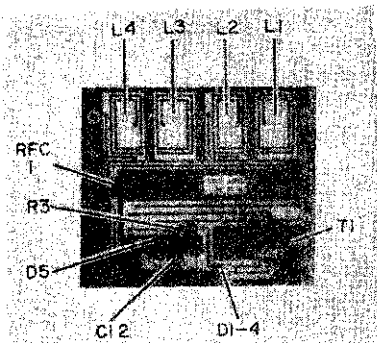

FIG. 5—POWER SUPPLY parts in position on the main circuit board.
If the complete etched-inductor/circuit board is utilized as shown and described here, the power supply components should be mounted first, and the power supply checked out as shown in Fig. 5. At the top of the board, etched inductors L1, 2, 3 and 4 appear from right to left. Note use of etched link coupling for inductors L2 and L4 output coupling.
Inductances L1, 2, 3, 4 are etched onto the master circuit board as shown in Fig. 5. The complete circuit board alone is available from PAIA ELECTRONICS, P.O. Box 14359, Oklahoma City, Oklahoma 73114; price \$8.00. Specify item 2712PC. The same source will supply a complete kit of all parts including the circuit board, but less the case and knobs, for \$27.50 plus postage for 3 pounds. Specify item 2712K.